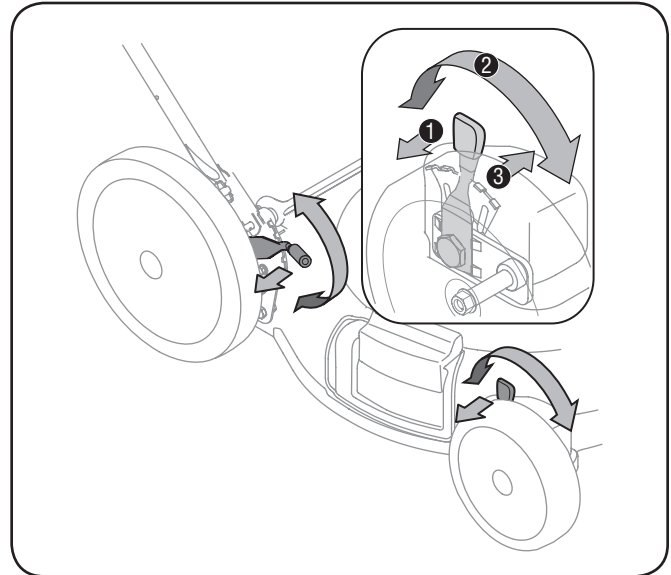

Figure 3-8
2. Slide lever to desired position for a change in cutting height. See Fig. 3-8.